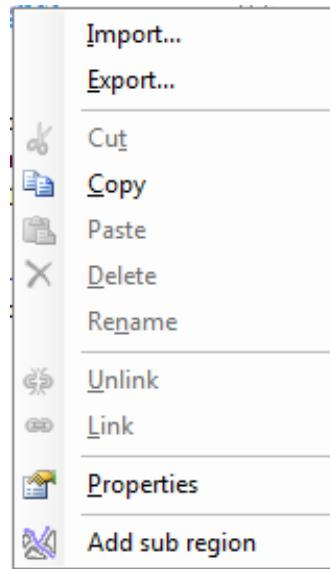

Figure 3.21: The context menu on the region level within the project explorer.
The context menu of the region level within the project explorer is shown in Figure 3.21. It contains the following choices:
- ◊ All other project items have context menus similar to the context menu on the region level as shown in Figure 3.21